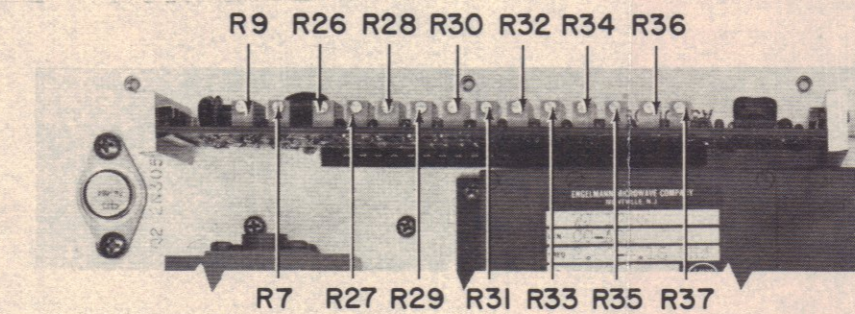

Figure 4-1g. YIG Tracking Potentiometer Locations
- (1) Tune the TH-245B to 2000 MHz.
- (2) Measure and note the voltages at pins 6 through 17 of XA3. Table 4-3 illustrates typical readings for a correctly aligned shaper. These voltages will not be identical for every YIG filter. However, the voltages should vary as shown, i.e., the voltage at pin 7 is greater than that at pin 6, and the voltage at pin 8 is greater than that at pin 7, etc.
- (3) If the measured voltage differs by a significant amount, or a new YIG filter has been installed, set the voltages to the readings shown in Table 4-3 using the appropriate potentiometers. Figure 4-1g, shows the potentiometer locations.